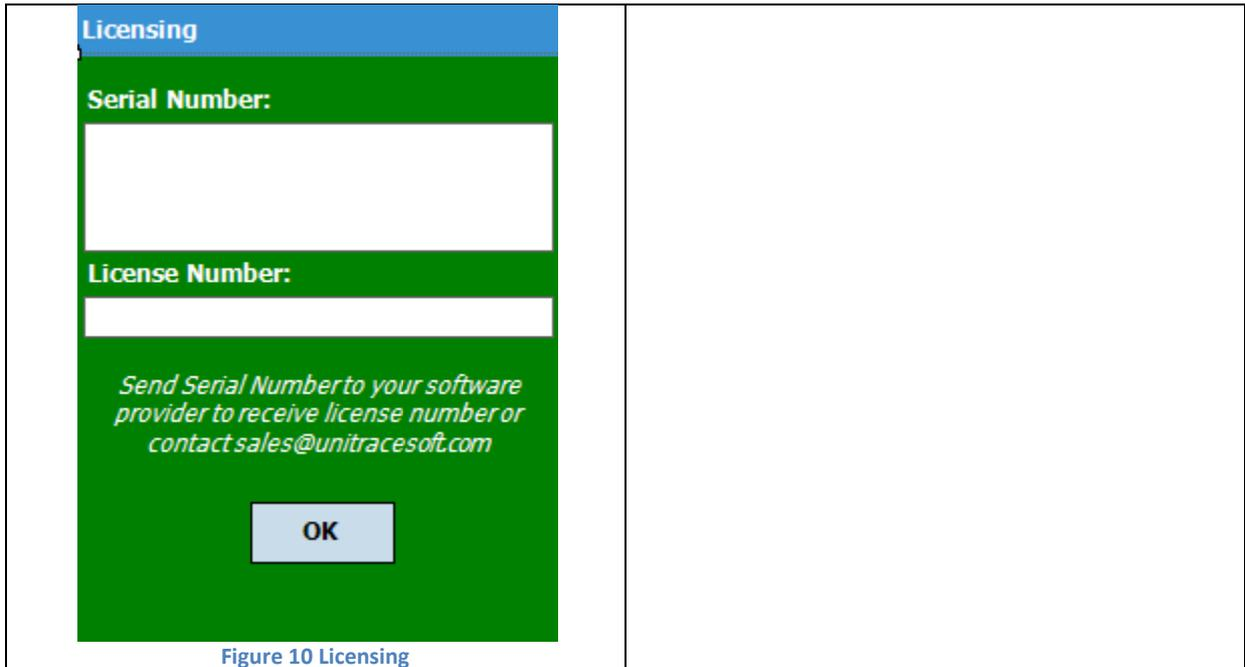

Figure 10 Licensing
- Go through licensing process (Figure 10)